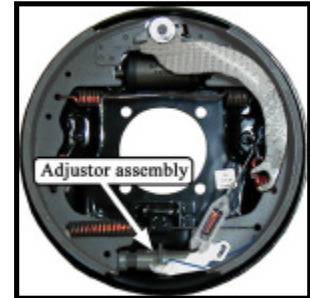

Figure 3
12. Lightly lubricate the adjuster screw threads with high temperature grease (figure 3) and install the adjuster screw all of the way into the adjuster nut.